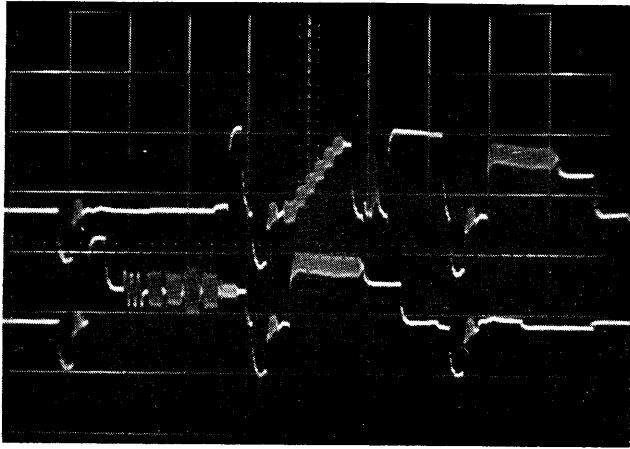

Fig. 20. Oscilloscope presentation of fields 1 and 2 of VITS information.
10. Pull the ◀ POS control outward to obtain an additional 5X magnification. Rotate the control in a counterclockwise direction moving the traces to the left until the expanded VITS information appears as shown in Fig. 20.
Fig. 20 shows the dual-trace presentation of the Field #1 and Field #2 VITS information. The Field #1 information is displayed on the trace.